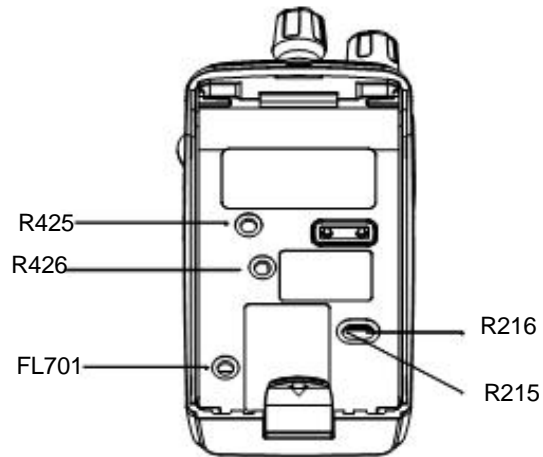

Figure 3-2 Tuning Ports
- Using the ceramic tool, adjust R425 to tune high power (refer to Figure 3-2).
- Using the ceramic tool, adjust R426 to tune low power (refer to Figure 3-2).
- Using the ceramic tool, adjust FL701 to tune the frequency (refer to Figure 3-2).
5. Then adjust R215 counterclockwise at the point where the Audio Frequency signal appears (refer to Figure 3-2).
4. Using the ceramic tool, adjust R216 clockwise to off the audio output (refer to Figure 3-2).